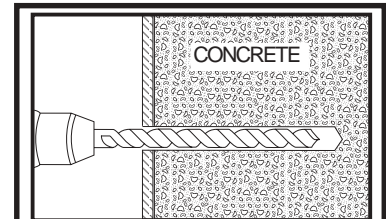

Fig. 2.1.1
Making sure that it is level, use wall arm (BB) as a template to mark holes. Use an ANSI drill bit size between 0.255" - 0.259" to drill eight holes to a minimum depth of 3.25" (83 mm) as shown in **figure 2.1.1**. Blow the hole clean of dust and other material.